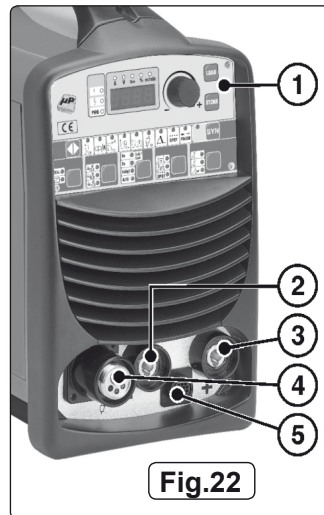

Fig.22
The plug at the end of the electrode cable will normally be connected to the positive socket (+) on the front panel (see fig.22 item 3).
13.2 WORK CLAMP CABLE The plug at the end of the clamp cable will normally be connected to the negative socket (-) on the front panel (see fig.22 item 2).